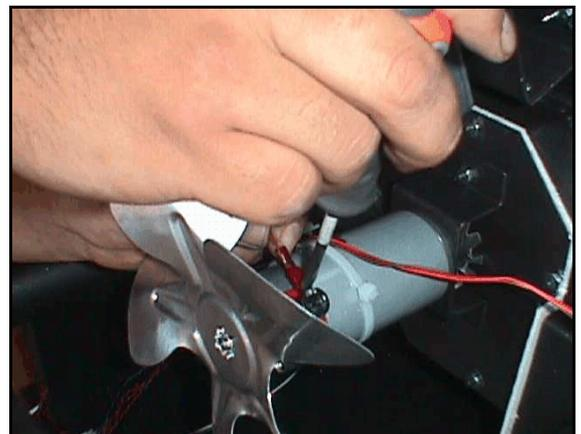

Figure 4
**Removing the wire harness connections :** Using care not to bend the fan blade, carefully use a flat blade screw driver to help pry off the red and black motor wire terminals (Figure 4). Note the brush holders have a corresponding red and black base to confirm wire connections.